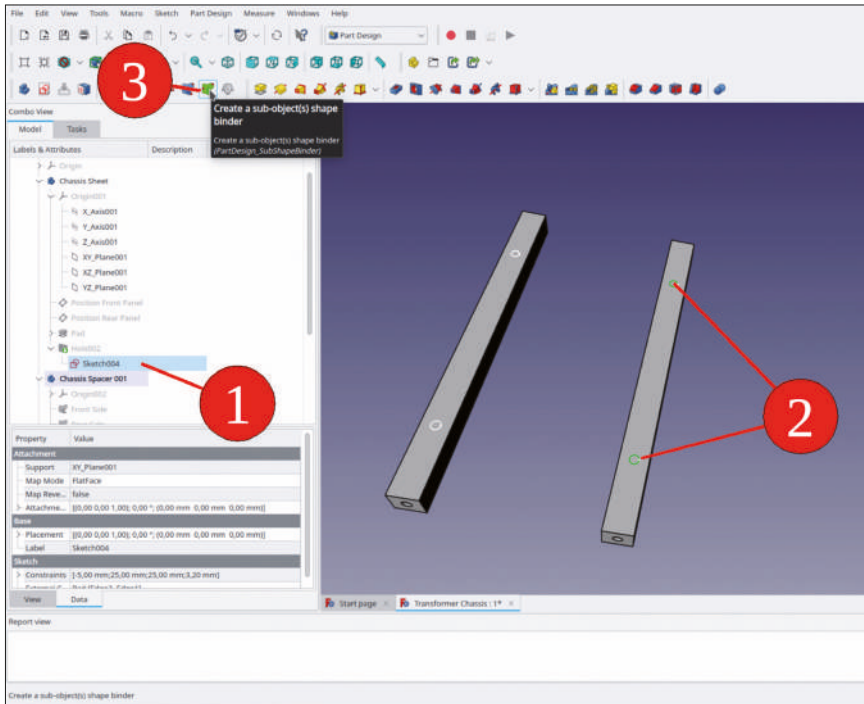

Figure 9-74
13. In the body 'Chassis Sheet', hide the tip (Hole002), and display the sketch of the holes (Sketch004). From the sketch, mark the two holes that need to be transferred to 'Chassis Spacer 001' (Figure 9-74). Then, click the green 'Create a sub object(s) shape binder' tool button.